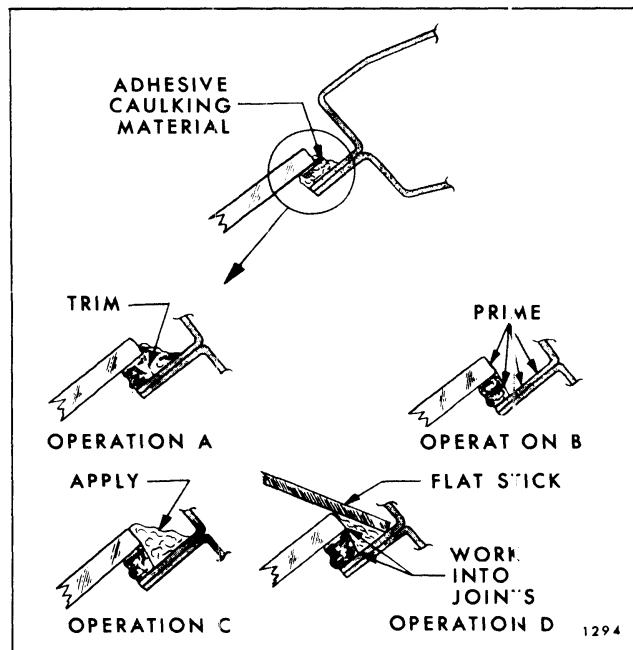

Fig. 1-17-Adhesive Glass Waterleak Correction
4. Using a sharp knife, trim off uneven edge of adhesive material (see Operation "A", Fig. 1-17) at leak point and 3 to 4 inches on both sides of leak point or beyond limits of leak area.
6. Apply adhesive material, as shown in Operation "C" (Fig. 1-17), at leak point and 3 to 4 inches on both sides of leak point or beyond limits of leak area.
7. Immediately after performing Step 6, use flat stick or other suitable flat-bladed tool to work adhesive material well into leak point and into joint of original material and body to effect watertight seal along entire length of material application (see Operation "D", Fig. 1-17).